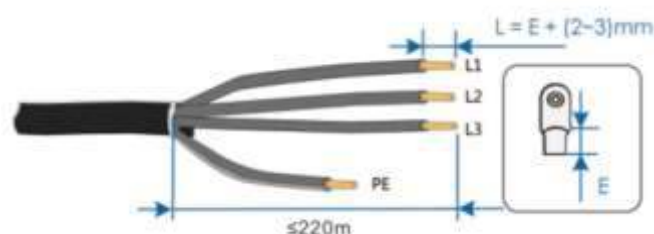

Fig. 4-31 Strip the protection layer
- 4) Strip the protection layer and insulation layer by specific length, as described in the figure below (Fig. 4-31).